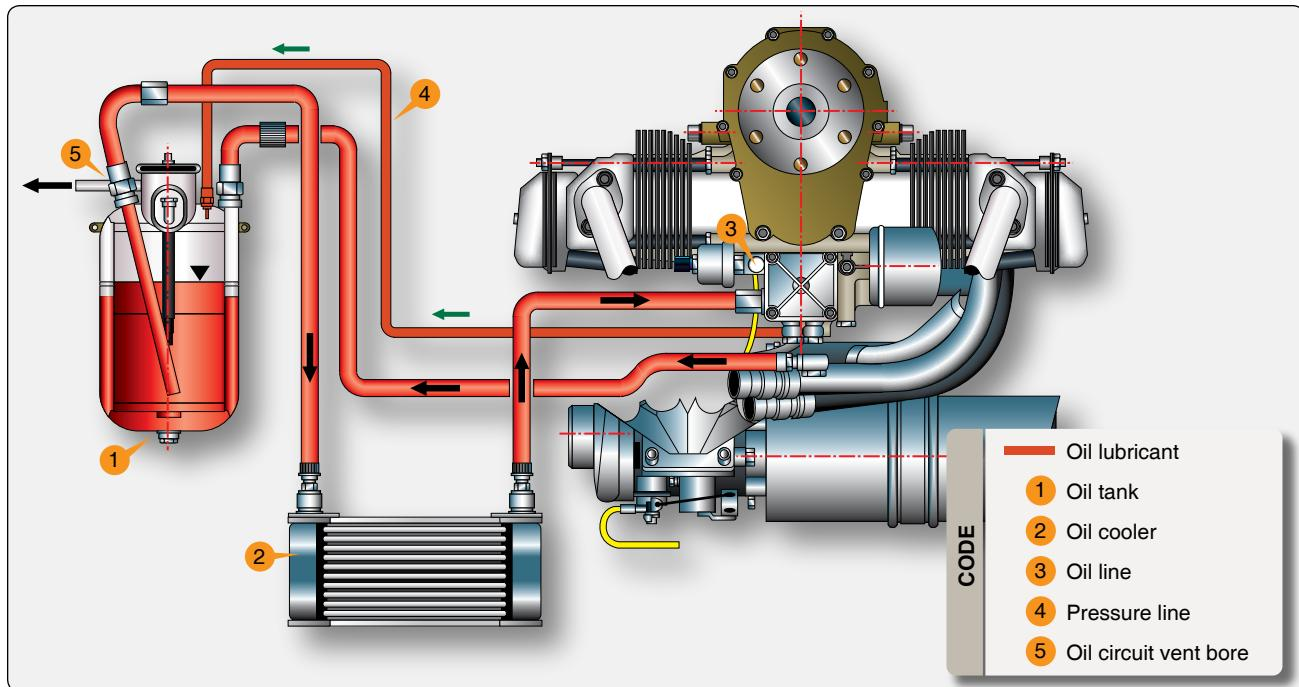

Figure 11-10. Lubrication system.
The Rotax 914 engine is provided with a dry, sump-forced lubrication system with a main oil pump with integrated pressure regulator and an additional suction pump. [Figure 11-10] The oil pumps are driven by the camshaft. The main oil pump draws oil from the oil tank (1) via the oil cooler (2) and forces it through the oil filter to the points of lubrication. It also lubricates the plain bearings of the